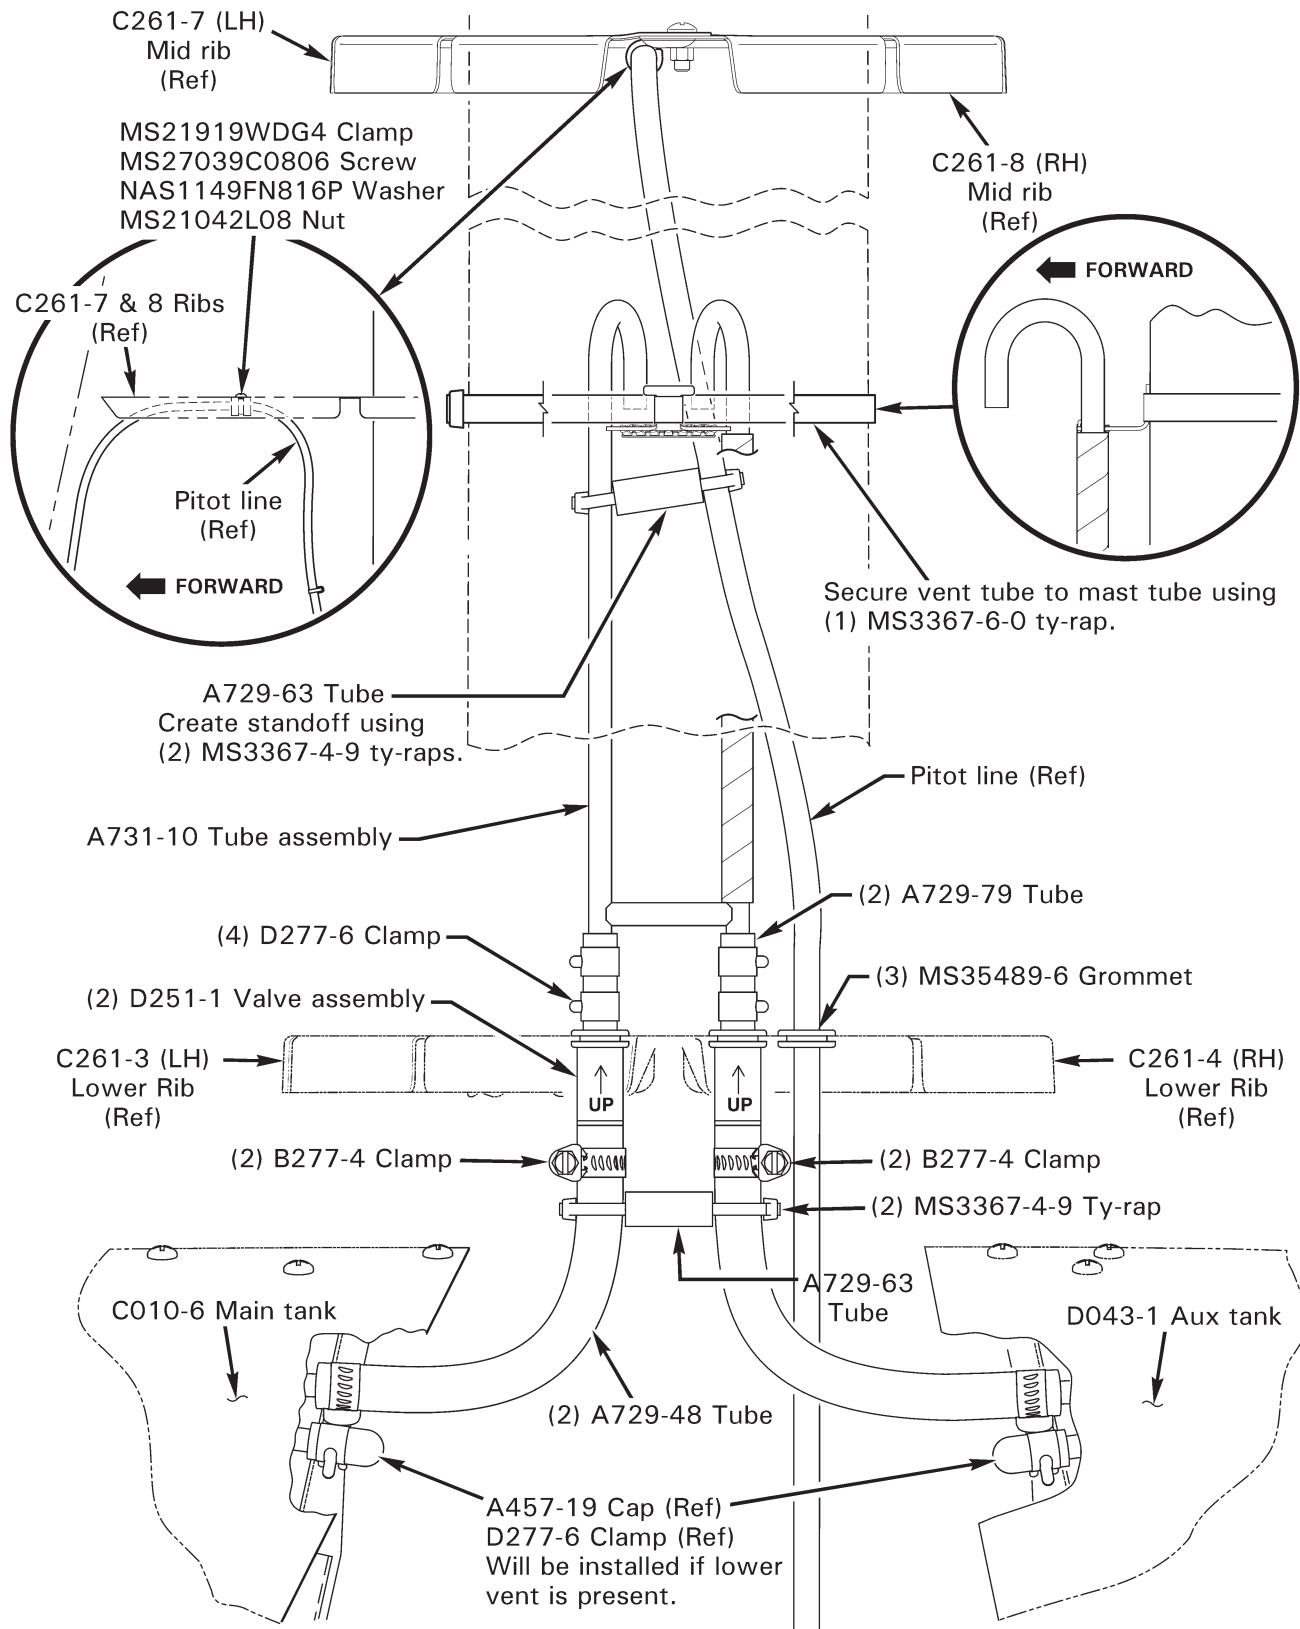

FIGURE 8
63. Refer to Figure 8. Replace (3) MS35489-6 grommets in lower ribs. Observe orientation markings and install (2) D251-1 rollover vent valve assemblies through lower rib grommets and attach A729-48 (tank vent) tubes using (2) B277-4 clamps; if lower vent fittings are present (main and/or aux tank), verify A457-19 cap(s) are installed. Install (2) A729-79 tubes to valve assemblies and secure using (2) D277-6 clamps.
66. Refer to Figure 8. Attach mast fairing to left side of upper rib. Route pitot line through grommet in rib. Create stand-off and secure pitot line to A731-10 tube assembly (left-side tube) using A729-63 tube and ty-raps as shown. Position MS21919WDG4 clamp around pitot line and secure clamp to C261-7 & -8 mid ribs using hardware shown. Connect pitot line to pitot tube. Perform pitot system and static system leak tests per MM § 13-10.